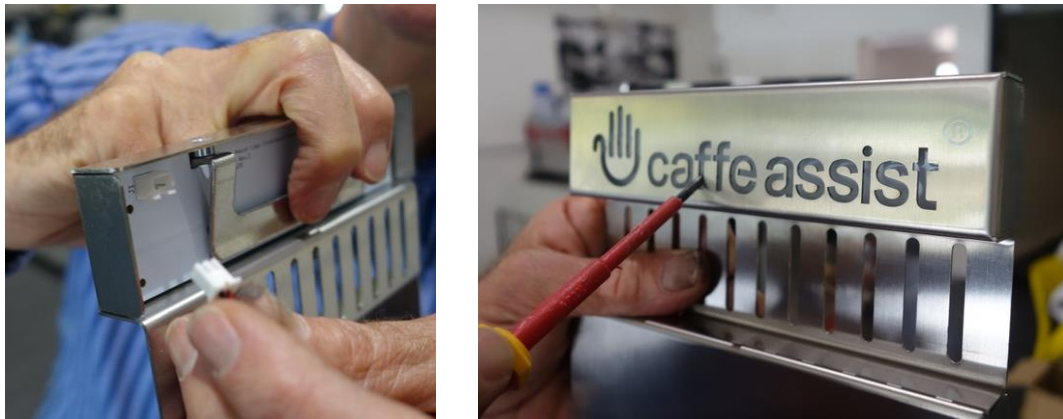

Figure 45: Disconnect logo cable, and removal of logo through rear panel housing
1. Remove side and read panels (0).
2. Disconnect cable from rear logo PCB, see Figure 45.